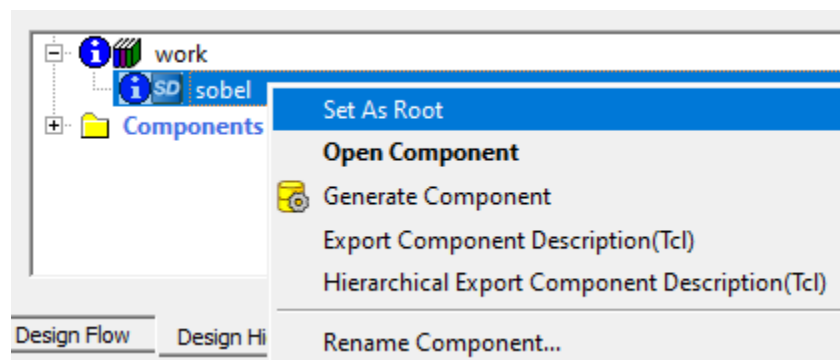

Figure 23: Select the SmartDesign module as root in Libero® SoC.
In the *Design Hierarchy* panel, right click the SmartDesign (SD) icon and click *Set As Root* as shown in Figure 23 below.